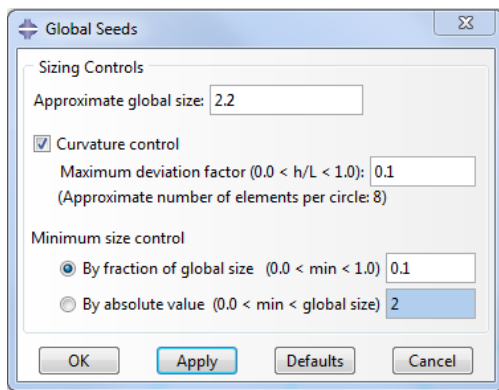
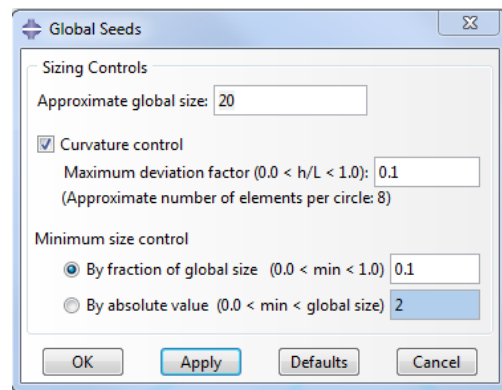

Figure 13a. Global Seeds Dialog Box
Figure 13b. Global Sees Dialog Box (20)
- The first step in creating a mesh is to seed the part. Click the **Seed Part** icon  in the mesh module and you will be prompted by the **Global Seeds** dialog box (Figure 13a). Change the **Approximate global size** to 20 and click **Apply**. The **Global Seeds** dialog box should look identical to Figure 13b.